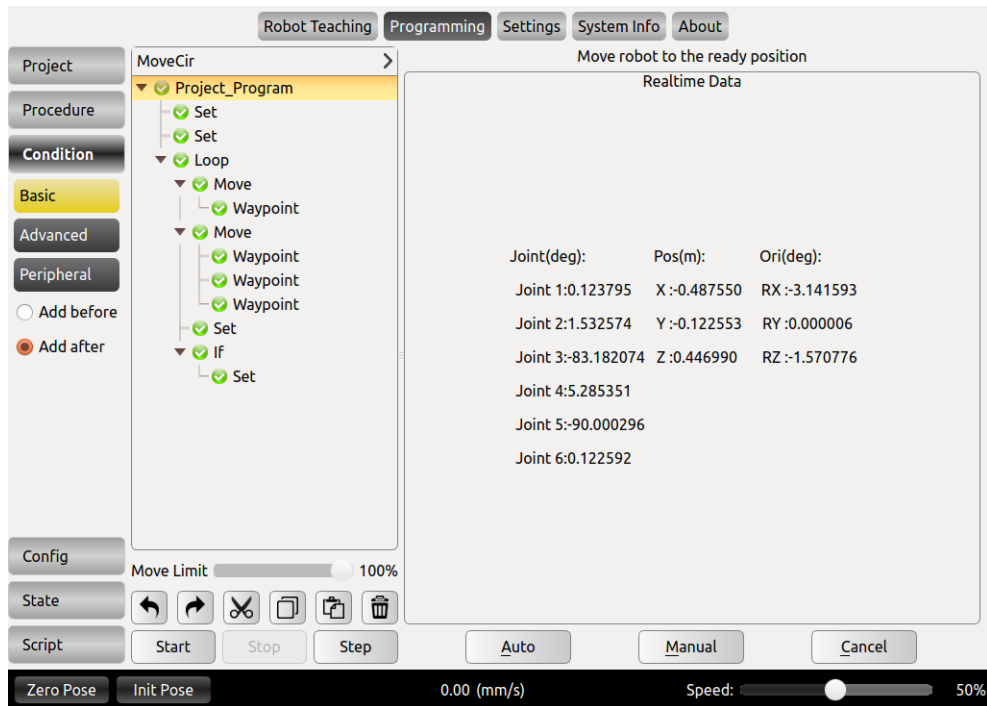

Figure 11-8 Automove
- Motion mode includes S Curve and default Optimum time mode. It is recommended to choose S Curve to ensure that start and end motions are smoother in a short time. Maximum joint speed and maximum joint acceleration can be set as Figure 11.8.